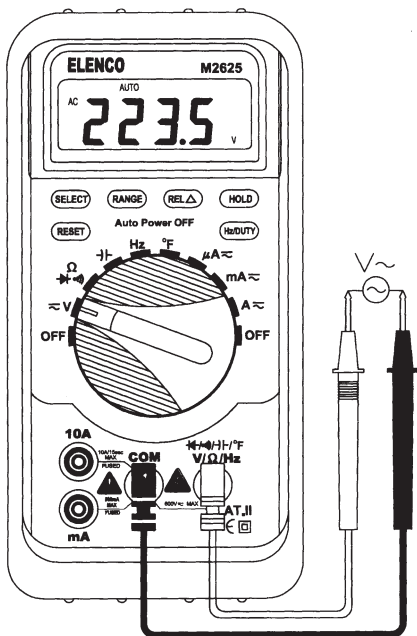

Figure 7. AC Voltage Measurement
1. Turn on the meter, then set up the meter to measure AC volts as shown in Figure 7.